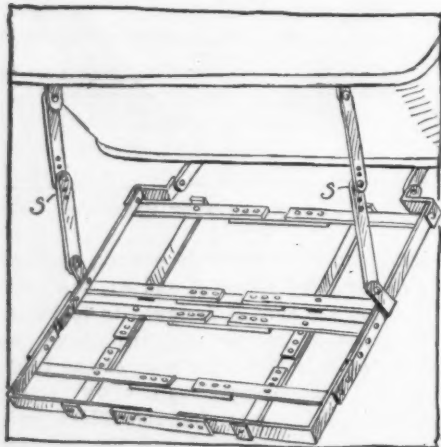

FIG. 21—NOONAN TRUNK RACK
**Noonan Tool and Machine Works**—Shown for the first time is the Noonan adjustable motor car trunk jack, Fig. 21, designed to be secured to the rear of a car body. It is of lattice construction, made from spring steel parts, which are hot-forged into shape, machined and finished with two coats of enamel. It attaches to the body sills, and is reinforced by brace straps S, which permit of its folding up in the rear of the body when not in use. In addition to this rack, the company has its line of fine tools, such as chisels and punches, put up in sets of leather rolls and wooden boxes. The company has what it terms its four-in-one valve tool for repairing damaged tire valves, this tool being capable of removing the plunger, rethreading the outside, rethreading the inside and rethreading the end. The concern's line also includes brass foot and robe rails, and other body parts.